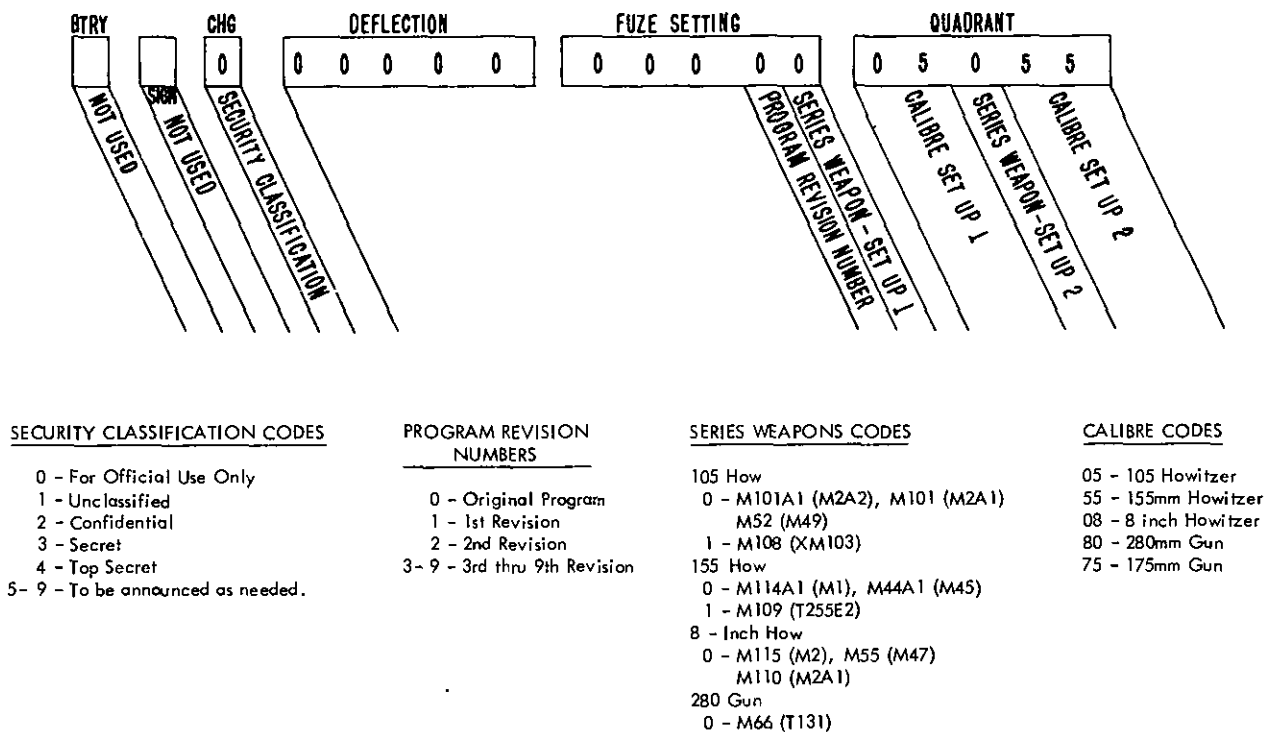

Figure 3. Program test 1 display.
- (1) Depress the PROG TEST button. The keyboard light will light.
- (2) Depress the 1 key on the keyboard. If the test is successful a series of zeroes will be displayed in the DEFLECTION windows and the left 3 digits of the FUZE SETTING windows (fig. 3). If unsuccessful the NO SOLUTION light will flicker and a different series of numbers will be displayed. The remaining numbers in the FUZE SETTING, QUADRANT, and CHARGE windows indicate the program which is entered in the computer.
- (3) Repeat the test if the first attempt is unsuccessful. If it is successful on the second or third attempt, the operator is reasonably certain the program is properly loaded. The cause of the condition above is due to aging